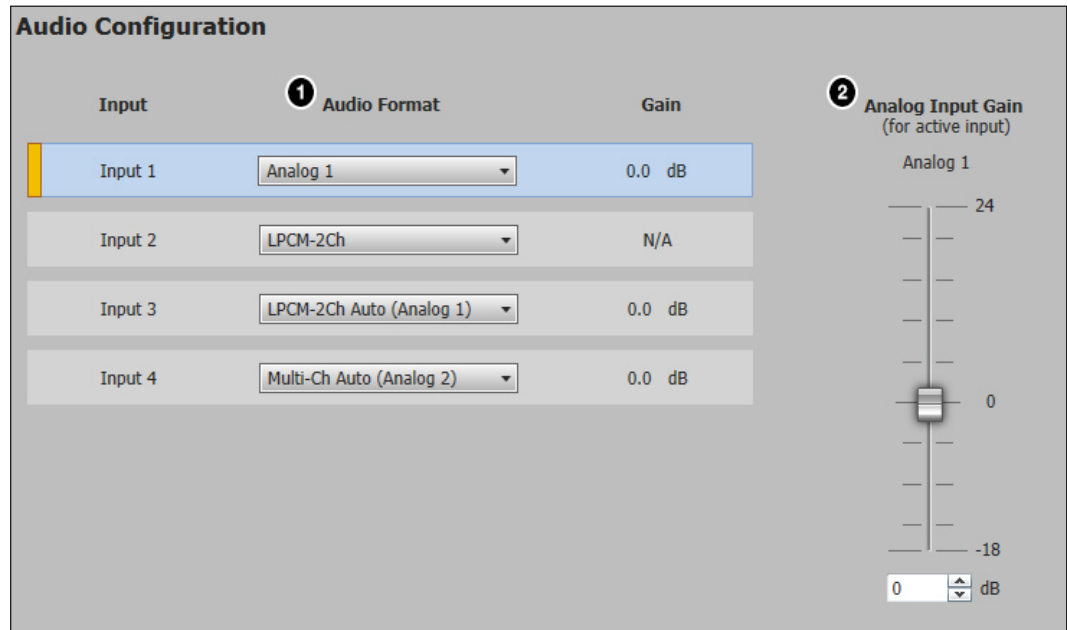

Figure 52. Audio Configuration Page
1. From the **Audio Format** drop-down menu (see figure 52, 1), select the desired audio input format. The audio input format specifies whether the audio input is analog, digital, or not to be sent to the output.
2. For analog audio inputs, adjust the level using any of the following methods (see figure 52, ② on page 70):